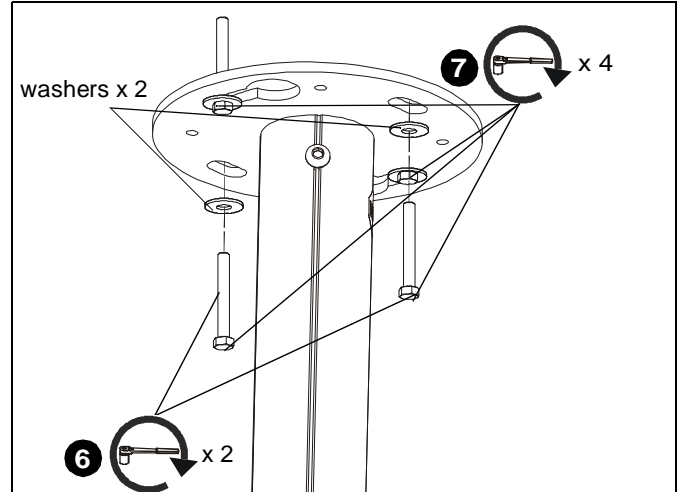

Figure 8
6. Install two 5/16" x 2 3/4" bolts (not included) through two 5/16" flat washers (not included) through holes on ceiling plate (A) and into anchors. (See Figure 8)
7. Tighten all four bolts to secure plate to ceiling. (See Figure 8)